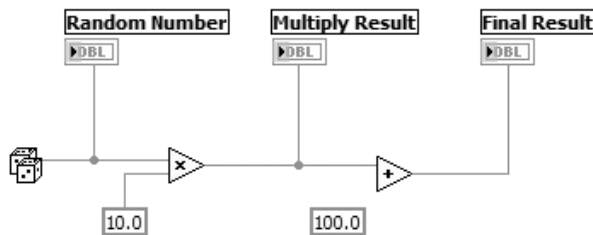

Figure 5.9
2. Switch to the block diagram, which is shown in Figure 5.9. Notice that the run arrow is broken. You must find out why and rectify the situation so the VI will run.